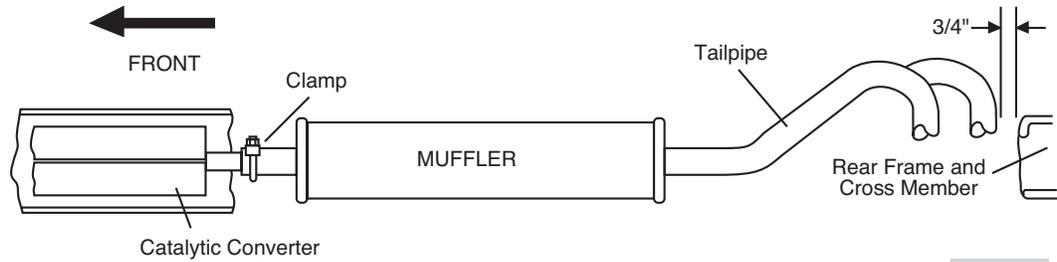

fig. 5
*A slight adjustment MAY be required to gain enough clearance to install the heat shield (Fig. 5). Loosen the exhaust clamp between the muffler and the catalytic converter. Push the muffler and tailpipe to the rear of the vehicle, retain a minimum of 3/4" between tail pipe and frame crossmember and retighten clamp.*